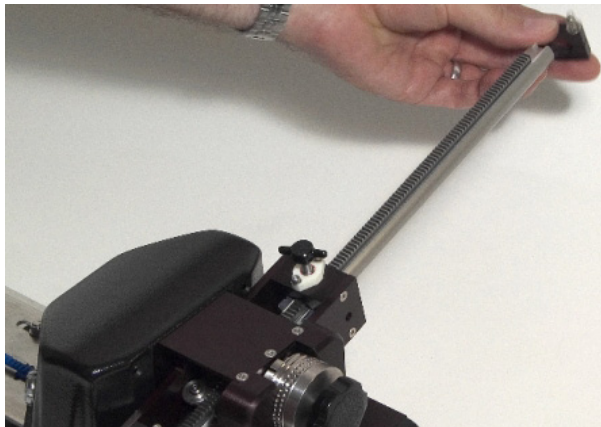

Figure 2-6 Reinstalling the Y-axis end stop
12. Reinstall the Y-axis end stop (see Figure 2-6 on page 22).